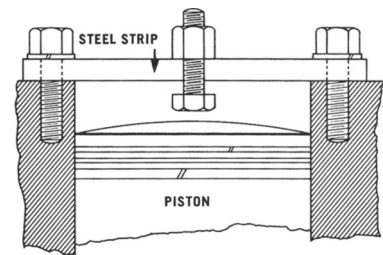

FIG. 12.
2. Obtain a stout strip of steel about seven inches long and drill three 1/2-inch holes in it (see Figure 12 & 13 for position of holes). This strip is placed across the center of the No. 1 cylinder bore and bolted on each end to secure it to the block. Caution: Be sure that the strip of steel is rigid enough so that it will not be deflected when the piston contacts the center bolt stop. Incidentally, the positive stop should be adjusted so as to stop the piston's upward travel at approximately .200 to .800 below T.D.C.